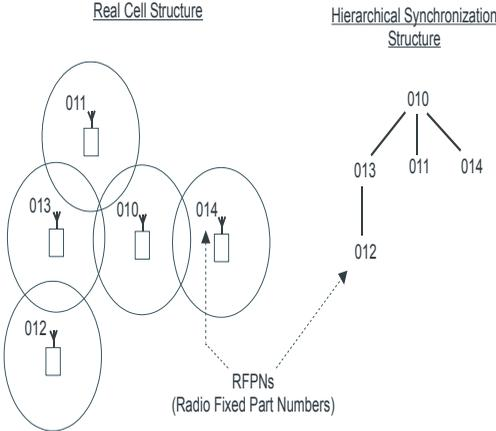

Figure 2-13 Synchronization Structure.
In Figure 2-13 "Synchronization Structure." you see an example of a simple DAP structure. When the system starts up, the DAPs try to synchronize to the DAP with the lowest RPN. For DAP 010 it means that it will become the synchronization source! The DAPs with RPNs 011, 013 and 014 will synchronize to RPN 010. However, RPN 012 will synchronize to RPN 013 although RPN 013 is a higher number. Finding a synchronization source is not limited to one level deep only. DAP 012 knows that DAP 013 is synchronized to a DAP (010) that has a lower number than itself. Therefore DAP 012 will synchronize to DAP 013, because it is aware that DAP 013 gets its source from a DAP with a lower number.